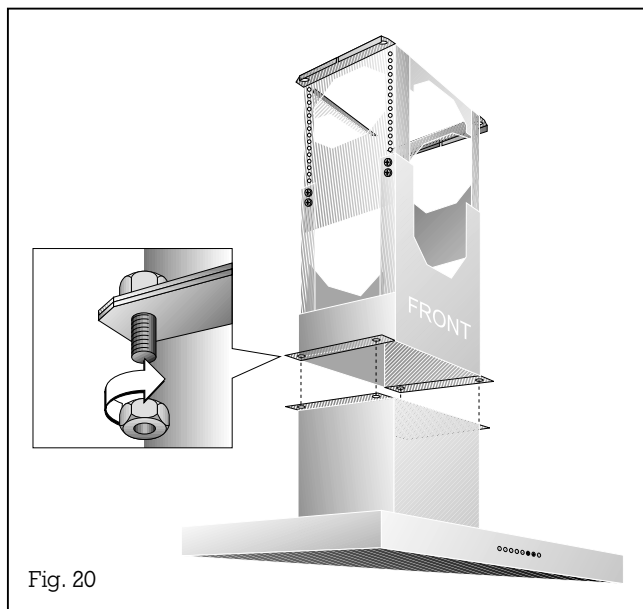

Fig. 20
5. Screw the support frame to the hood with 4 screws. The marking "FRONT" must be on the same side as the control panel (Fig. 20).